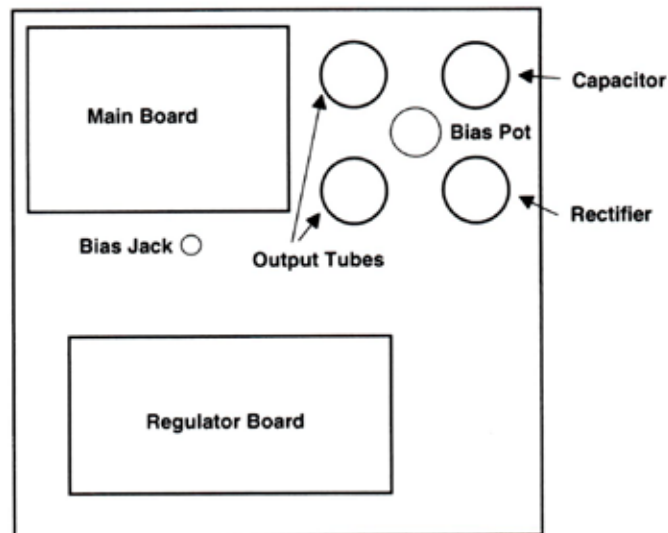

Figure 1. Bottom View of Chassis
We recommend that you follow this assembly sequence. Refer to figures 1 through 9 as you follow the assembly instructions.
- 1) Turn the chassis upside down and position the unstuffed circuit boards inside the chassis (foil side of circuit board facing down) as shown in figure 1. Holes for main board should exist, however check for proper fit. Measure and mark the position of the regulator circuit board's four mounting holes on the chassis using a pen or marker. It is required at this time to drill new mounting holes in the chassis for this board. After drilling holes, place the circuit board to the side for later use. Also drill a 3/16 inch hole for the bias jack.